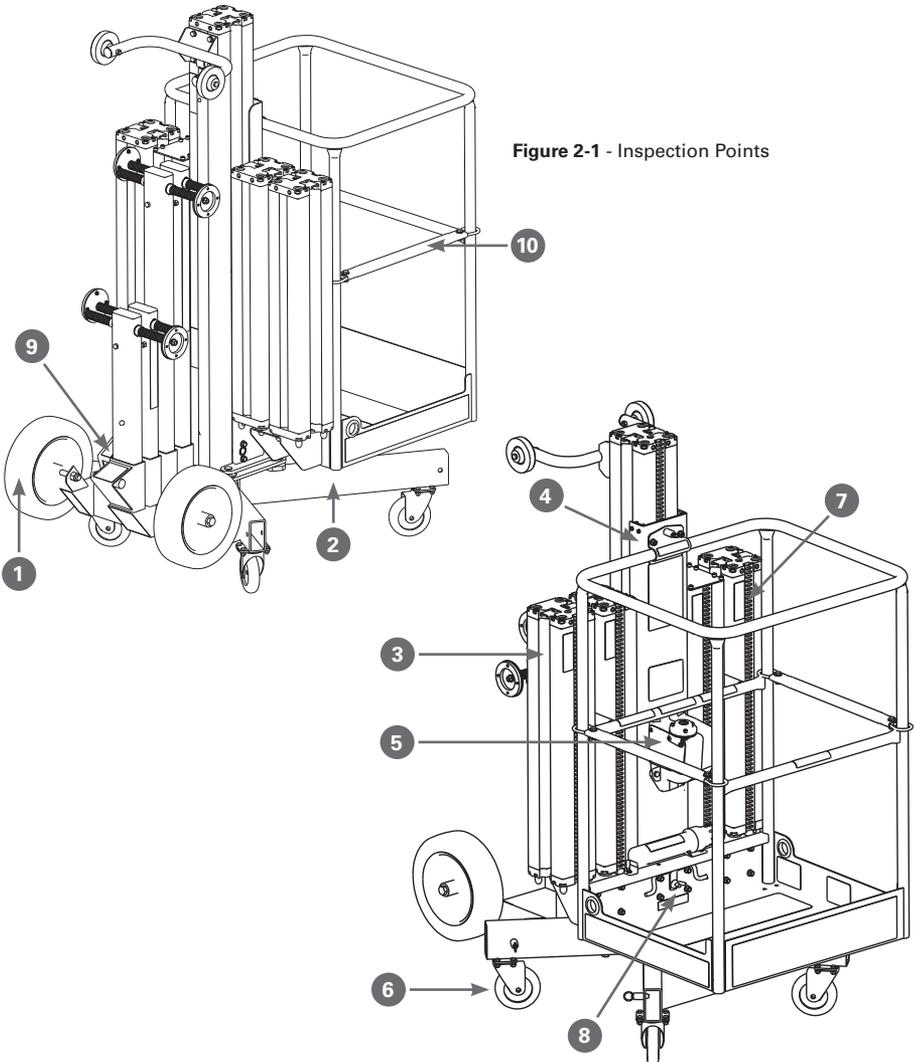

Figure 2-1 - Inspection Points
Begin the Daily Walk-Around Inspection starting at item one (1) as noted on the diagram Figure 2-1. Continue around the machine checking each item in sequence for the conditions listed in the following check list.
3. **Mast Sections** - Check for cracks and corrosion. Make sure the Cam Levers are not bent or misshapen and springs are functioning properly. Make sure the track teeth are not worn, bent or misshapen. Make sure the Cam Lever Lock is not bent or misshapen and the spring is functioning properly. Make sure the Connector Pins are not worn or damaged and the Connector Pin Openings are clean and free of debris. Check to be sure the Cam Lever Shaft is not showing excessive wear. (See Figures 2-1, 6-1 and 2-4)